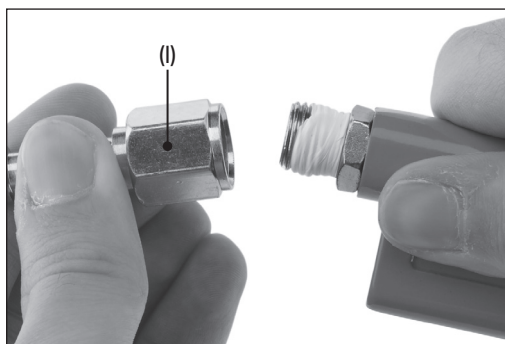

Fig. 5
4. Screw the 1/4" air line coupler (1) onto the spray gun air inlet (Fig. 5).